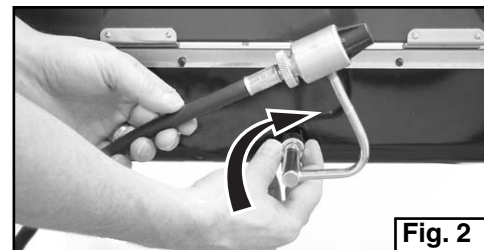

Fig. 2
- Attach hose to regulator and regulator to stove. (Fig. 2)